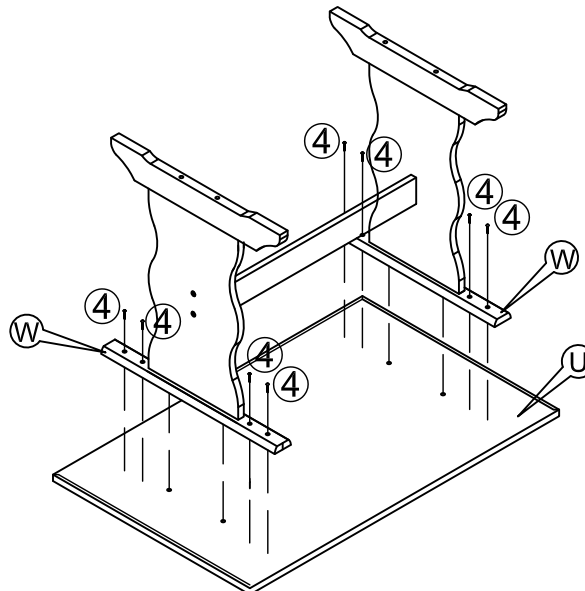

FIGURE 4
- 4.1 ATTACH ASSEMBLED LEGS TO TABLE TOP #U THROUGH FITTING WOOD DOWELS PRESENT IN UPPER SIDE OF TOP SUPPORTS #W INTO HOLES LOCATED UNDERNEATH OF TABLE TOP #U AS SHOWN IN FIGURE 4. IT SERVES AS GUIDE ENABLING YOU TO CONNECT THE LEGS IN CORRECT POSITION.
- 4.2 USING PRE-DRILLED HOLES AS GUIDE, SECURE CONNECTION WITH (08) SCREWS#4 DRIVEN WITH SCREW DRIVER AS SHOWN IN FIGURE 4.